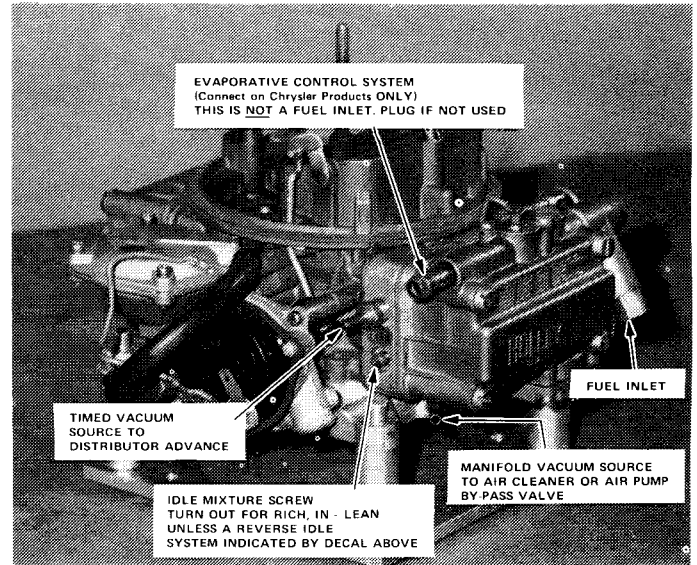

Fig. 1
2. Tag and mark fuel line and fuel bowl vapor vent line (Chrysler products only). Fig. 1